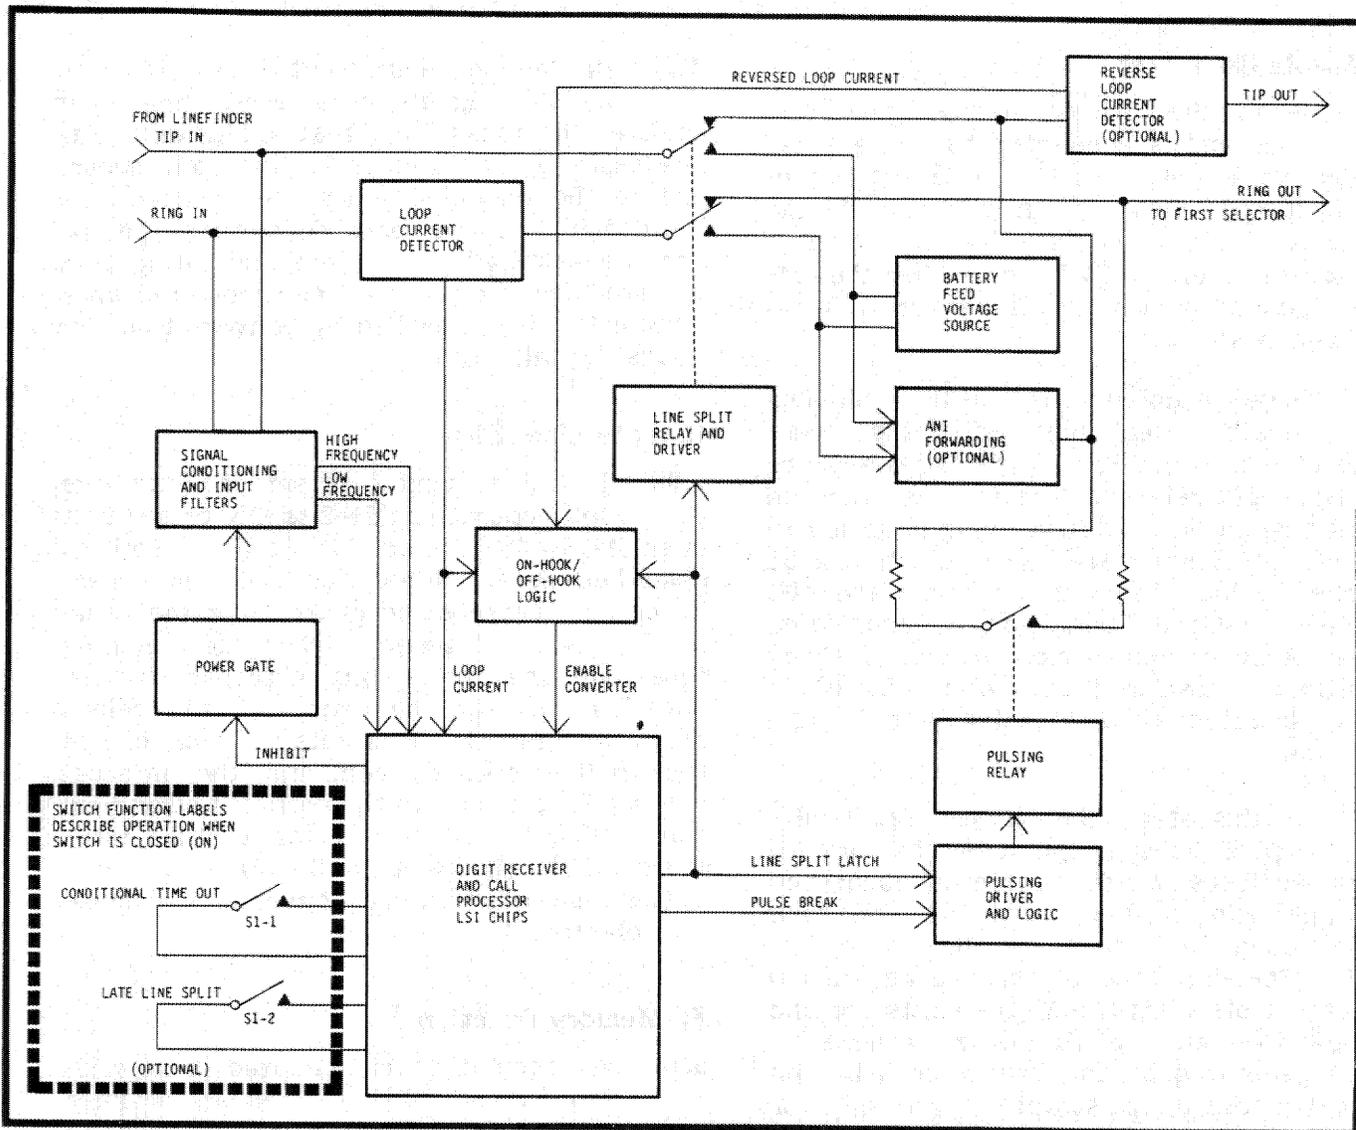

Figure 5 Simplified Block Diagram
5.01 To assist maintenance and troubleshooting this description follows a call as it is handled by the CONVERT-A-PAK. As shown by the simplified block diagram, figure 5, the M-164 can be most simply described as consisting of the LSI chips and their peripheral circuits.
5.09 If the converter is set for late line split operation (S1-2 is ON or the unit is an M-164-46, -49, or -50) the line is split as described here. When the tones have persisted for the required guard time the value of the digit is latched. When the incoming tones end, the line is split in preparation for outpulsing by the operation of the relays shown in figure 5. This cuts off dial tone to the calling station, connects the internal battery feed supply to the calling station, and connects the ANI forwarding feature (provided on the M-164-42 and -50) to the line. Pulses generated by the converter will pulse the selector.
pulsing relay contacts under the control and timing of the LSI chips (see figure 5). The line is held split during the interdigital times and is restored 40 ms after the last pulse of the most recently received digit. If another digit is then received, its outpulsing will not start until one make period after the interdigital time of the previous digit is completed. To be recognized and outpulsed a succeeding digit must be received before the Time Out timer inhibits the unit. If the line has been restored a succeeding digit will cause it to be split again.